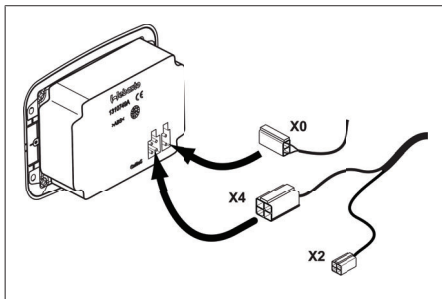

Fig. 51 Mounting the manual control panel back
6. Connect the X4 plug (4 poles) of the wiring harness to the control panel (see Fig. 51).
7. Connect the X0 plug (2 poles) of the inside temperature sensor to the control panel (see Fig. 51).
9. Connect the X0 plug (2 poles) of the inside temperature sensor to the control panel (see Fig. 51).